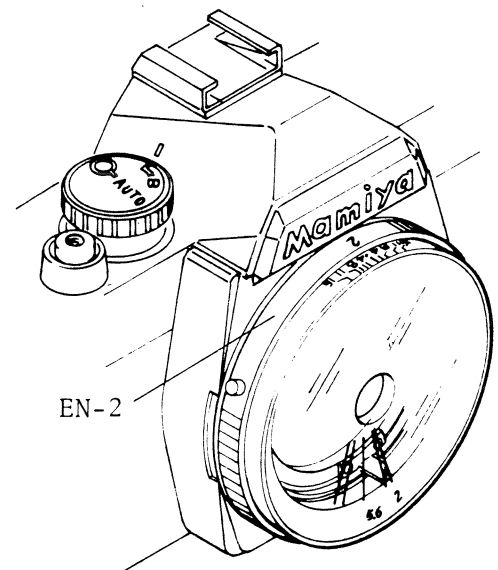

Fig.33
1. Attach the aperture arm position gauge to the camera. (Fig. 33)